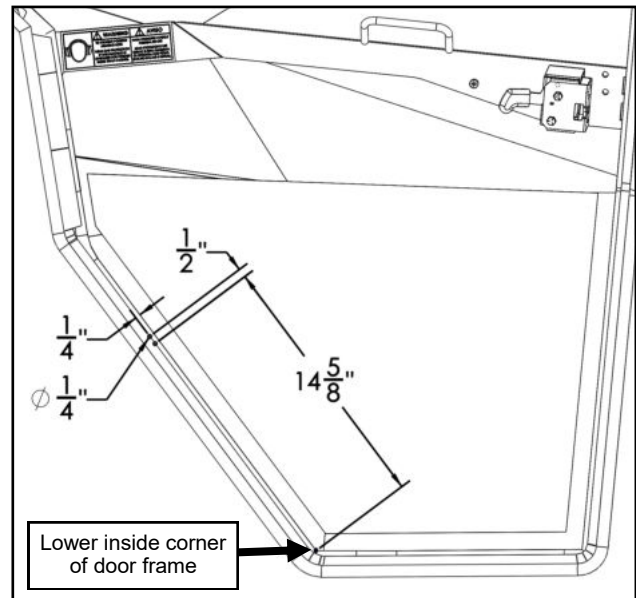

Fig. 1.3 (Drill Door Frame, as needed)
If Curtis door kit frames have pre-drilled holes as shown in figure 1.3, skip step 1.3 and continue to step 1.4.
1.3 Per figure 1.3, drill (2) 1/4" holes thru the Velcro, door frame, and vinyl. Drill both the left and right doors.